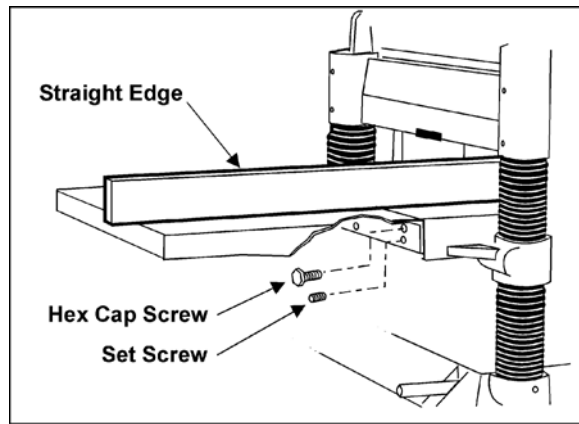

Figure 6
1. Mount the first JET Black coated extension table to the edge of the main table with three M8 x 25 hex cap screws (see Figure 6). Do not fully tighten yet.